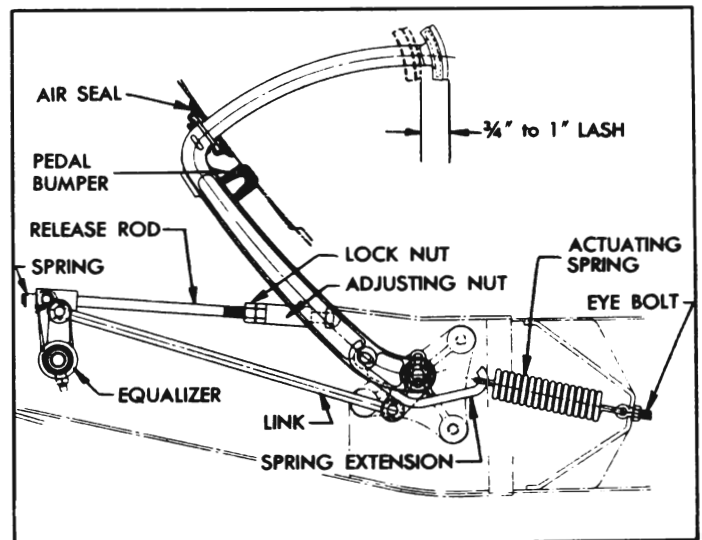

Figure 4-4—Clutch Pedal Lash Adjustment
An over-center type actuating spring holds the pedal firmly against a rubber bumper on the toe board when clutch is in engaged position, and helps to reduce pedal pressure as it goes over center when clutch is disengaged. The actuating spring is attached to the frame by an eye bolt and to a short arm of clutch pedal by an extension which straddles the pivot point of pedal. The spring and extension are positioned so that the pedal is pulled downward when depressed to disengage the clutch. See figure 4-4.
First make certain that clutch pedal is adjusted for specified lash (fig. 4-4) and that pedal is not binding. One type of clutch slippage is sometimes wrongly diagnosed as due to a weak clutch spring. This slippage occurs during gear shifting and full engagement of the clutch is not obtainable until the engine speed is reduced. After full engagement is obtained no further slippage occurs during acceleration or under full load. This condition is usually due to the clutch driven plate hub sticking on the splines of the
1. Make certain that the actuating spring pulls clutch pedal firmly against pedal bumper on toe board when pedal is released. If pedal is not pulled against bumper, check pedal and linkage for binding or lack of lubrication; also check condition of actuating spring and make sure that spring eye bolt is fully tightened. See figure 4-4.
3. If adjustment is necessary, loosen lock nut and turn adjusting nut on clutch release rod as required to secure  $\frac{3}{4}$ " lash, then tighten lock nut securely. See figure 4-4.